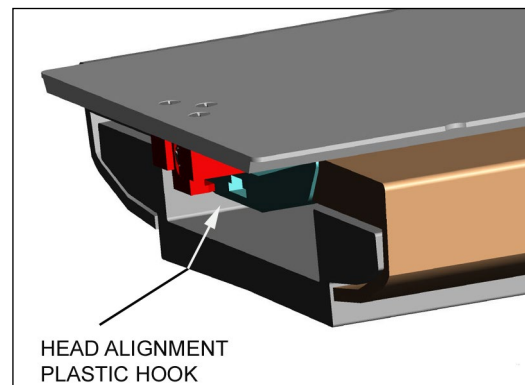

Fig. 43
- Slide the CT Overlay towards the CT cradle Foot End until the locking tab is securely into the CT cradle accessory mounting hole upper cavity. (This alignment will provide CT end left, right and vertical securing) (Fig. 43).